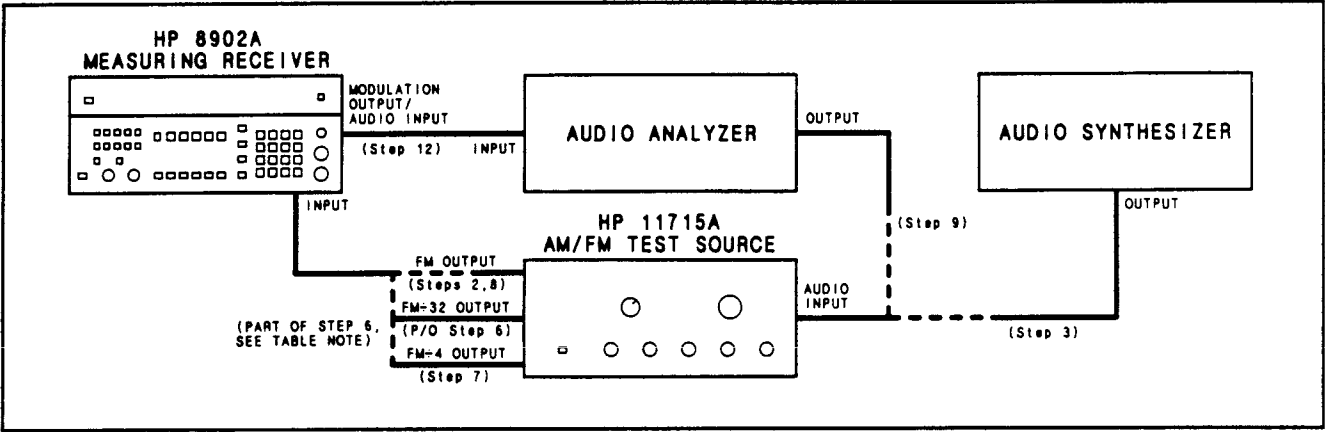

Figure 4-3. FM Performance Test Setup
2. On the AM/FM test source, set the test mode to FM. Connect its FM output to the Measuring Receiver's INPUT. (See Figure 4-3.)
3. Set the multifunction synthesizer to 200 Hz at -10 dBm. Connect its output to the audio input of the AM/FM test source. (See Figure 4-3.)
* Connect the FM÷32 output of the AM/FM test source to the Measuring Receiver's INPUT to make this measurement. (See Figure 4-3.) Press AUTOMATIC OPERATION, then MHz to retune the Measuring Receiver. If the resolution is not 0.001 rad, press Φ M again.
7. On the Measuring Receiver, key in 3.1 SPCL to set the IF to 455 kHz. Press FM. On the AM/FM test source, connect the FM÷4 output. (See Figure 4-3.) Set the multifunction synthesizer frequency as shown in the following table. Set the Measuring Receiver High Pass Filter as shown in the table. Set the audio synthesizer level to give the FM deviation shown in the table. After setting each FM deviation, press Φ M. For each setting, the Measuring Receiver's display should read between the limits indicated in the table.
8. Connect the FM output of the AM/FM test source to the Measuring Receiver's INPUT. (See Figure 4-3.) Press AUTOMATIC OPERATION on the Measuring Receiver.
9. Set the audio analyzer's oscillator to 1 kHz. Connect its output to the audio input of the AM/FM test source. (See Figure 4-3.)
12. Connect the audio analyzer's input to the Measuring Receiver's MODULATION OUTPUT/AUDIO INPUT. (See Figure 4-3.) Set the audio analyzer to measure the distortion on the 1 kHz signal at the MODULATION OUTPUT/AUDIO INPUT. Set the high-pass filter on the audio analyzer to 400 Hz. The distortion should be 0.1% (–60 dB) or less.